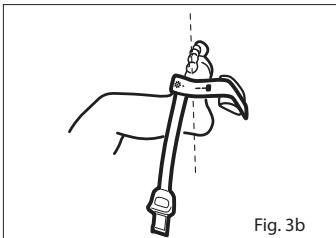

Fig. 3b
- Refer to Fig. 3b. Direct the sensor cable toward the ankle (or wrist). Apply the sensor around the lateral aspect of the foot (or hand), aligned with the fourth toe (or finger). Complete coverage of the detector window is needed to ensure accurate data.